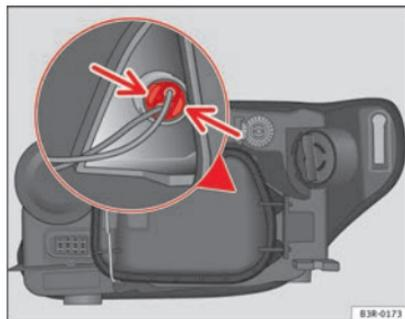

Fig. 200 Side light bulb (outside of vehicle)
- Gently press on the bulb holder tabs ⇒ Fig. 200 and pull the cover upwards (it can also be removed by pulling on the bulb holder wires).